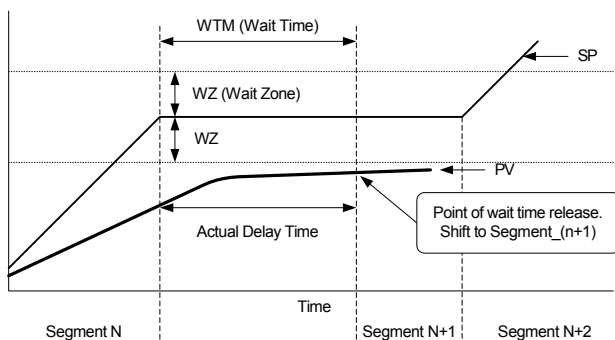

Fig 6: Wait Function Wait Time Release
This is the wait time parameter for the wait function, which sets the time the program will wait for the PV to enter the wait zone before starting the next program segment. The setting range is OFF (0) to 99.99 (time units set by TMU). When OFF, the wait function will not be enabled. See Fig 6 for more information.